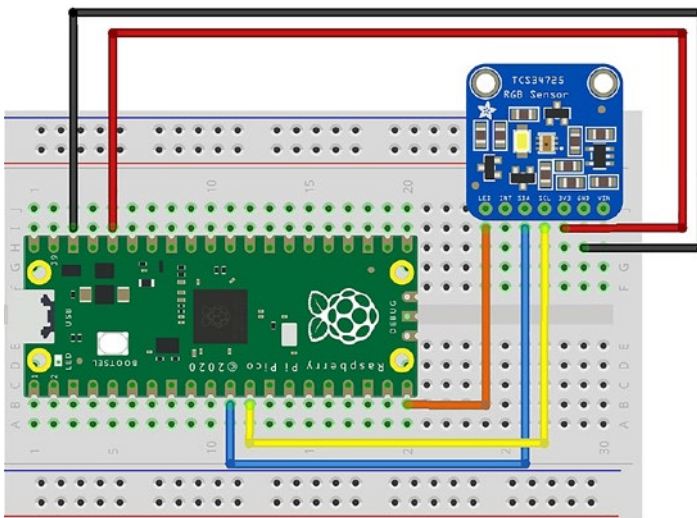

Figure 4-4. *Wiring the RGB sensor*
Once you place your Pico on a breadboard, you can use (5) male-to-female jumper wires to connect to the breakout board. Figure 4-4 shows the connections you need to make.